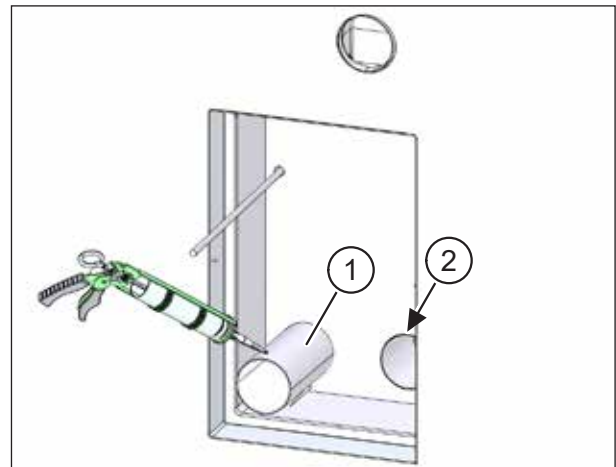

Fig. 42: Inserting and fixing the ventilation pipes
- ▶ Apply permanently elastic sealant to the outer skin of the ventilation pipes (item 1 in Fig. 42).
- ▶ Using a twisting motion, push the two ventilation pipes into the openings in the installation kit until they end flush with the inside of the installation kit (item 2 in Fig. 42).